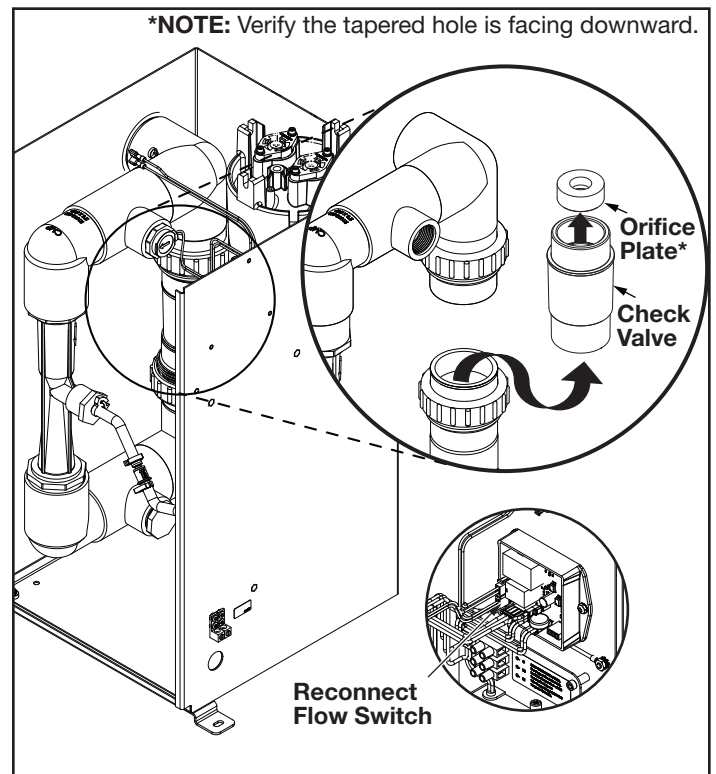

Figure 18. JAOPX200 Orifice Plate Location
4. Disconnect the flow switch connector from the circuit board assembly and secure by hand to ensure the wiring is not damaged during this process. See lower inset in Figure 18.
5. Loosen the upper and lower union fittings and remove the variable speed check valve from the intake manifold assembly to access the orifice plate. See upper inset in Figure 18.
6. Remove the orifice plate from the upper variable speed check valve opening. See upper inset in Figure 18.
9. Reconnect the flow switch connector to the circuit board assembly. See lower inset in Figure 18.